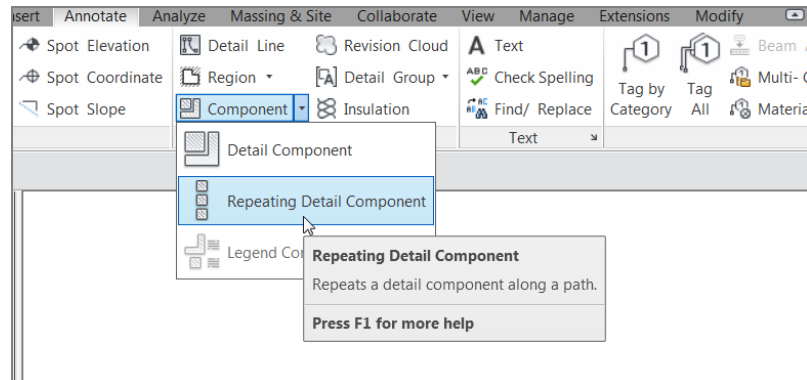

FIGURE 12.8: Select Component > Repeating Detail Component.
1. On the Detail panel of the Annotate tab, select Component > Repeating Detail Component, as shown in Figure 12.8.
2. In the Properties dialog box, choose Repeating Detail : Brick from the Type Selector, as shown in Figure 12.8.